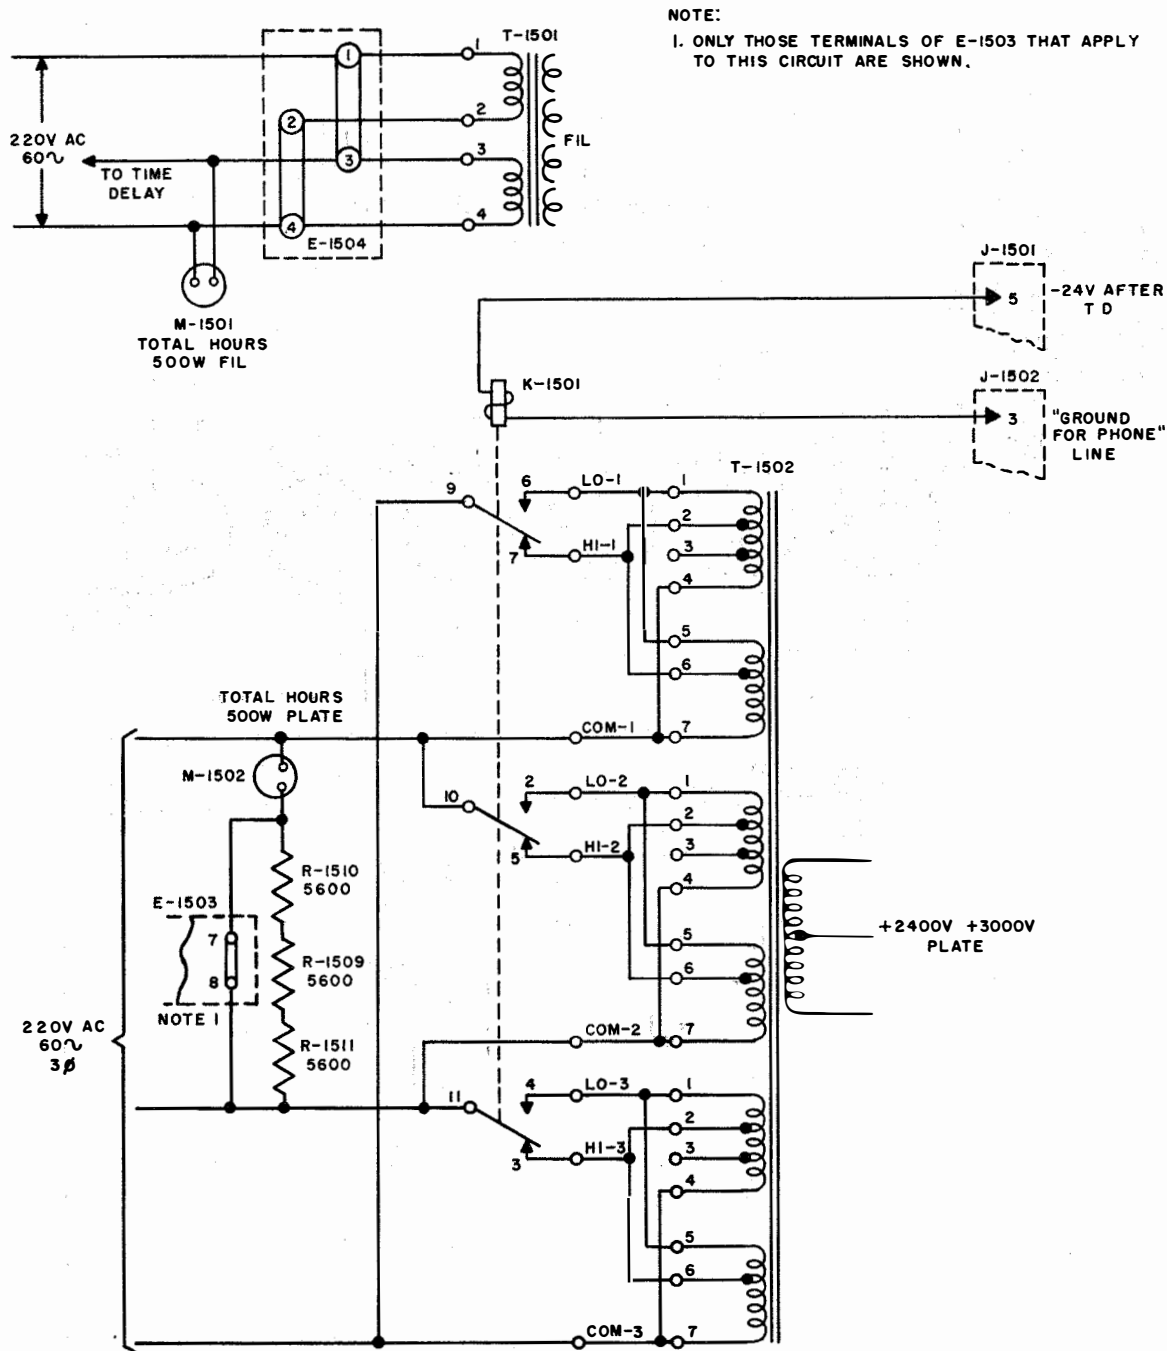

Figure 2-66. Transformer T-1502 Primary and Meter Connections for 220-Volt Input
3.5-amp fuses F-1504 and F-1505 are used, and for 220-volt input, 6.25-amp fuses F-1509 and F-1510 are used. Power is connected to T-1501 through terminal board E-1504. With 440-volt input (figure 2-65), a link is placed between terminals 2 and 3 of E-1504, which places the two primaries of T-1501 in series across the line. With 220-volt input (figure 2-66), links are placed between terminals 1 and 3 and between 2 and 4, which places the two transformer primaries in parallel. In either case, the voltage across either one of the two primaries (terminals 1 and 2 or 3 and 4 of T-1501) is 220 volts.
c. +2,400/+3,000-VOLT SUPPLY.—The +2,400/+3,000-volt rectifier circuit may have a three-phase input of either 440 volts or 220 volts. Figures 2-65 and 2-66 show the primary connections of T-1501 and T-1502 for each voltage. The primary of filament transformer T-1501 has two windings. Links on terminal board E-1504 connect the primary windings of T-1501, either in parallel (220-volt input) or in series (440-volt input). The primary of plate transformer T-1502 has six windings, arranged in a delta connection with two windings in each phase. With a 440-volt input (figure 2-65), these two windings are placed in series, and with a 220-volt input (figure 2-66) they are in parallel; therefore, there is always 220 volts across each winding. The primary connections of T-1502 are changed by means of links on a terminal board mounted on the transformer.